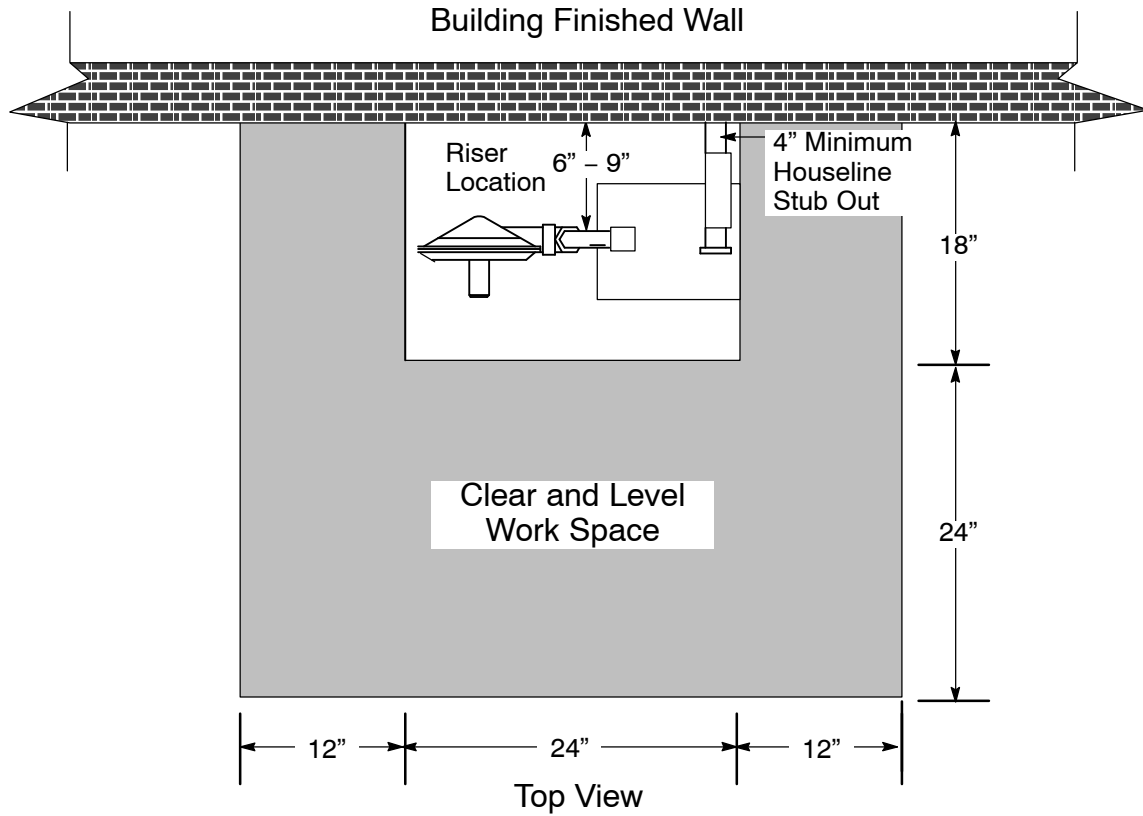
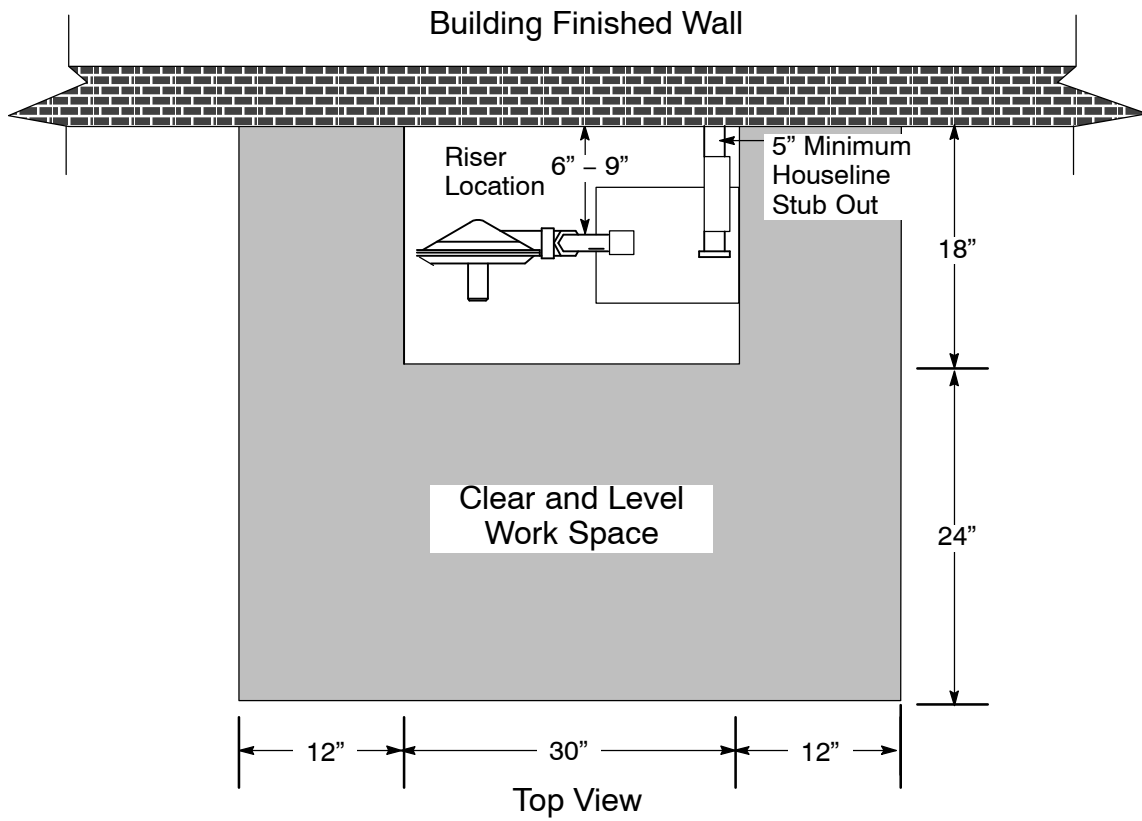

Figure 2-12
Figure 2-13
1. Figure 2-12 represents a typical gas meter kit with 0 through 350 scfh at 7 inches WC or 0 through 600 scfh at 2 psig.
2. Figure 2-13 represents a typical gas meter kit with 351 through 700 scfh at 7 inches WC or 601 to 1,340 scfh at 2 psig.
Typically, the gas meter size represented in Figure 2-12, “Gas Meter Connection Using an AC-250 Gas Meter,” located on Page 2-23, can be installed in a cabinet. Occasionally, PG&E will allow an applicant to install a gas meter the size of the one illustrated in Figure 2-13, “Gas Meter Connection Using an AL-425 or AC-630 Gas Meter,” located on Page 2-24, in a cabinet; however, this exception requires approval from PG&E. Applicants must install all other sizes of meter connections in a meter room, if an enclosure is required.